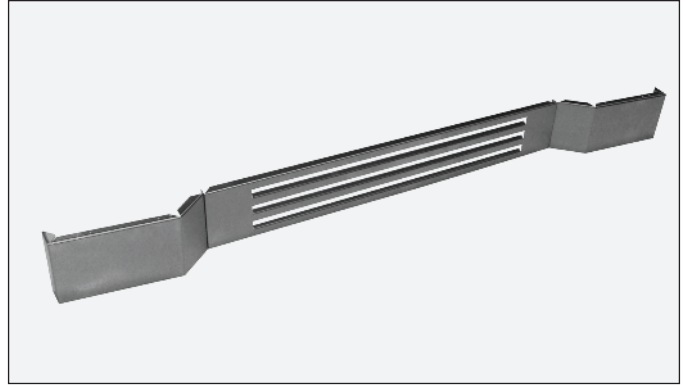

FIG. 1. The kickplate.
4. With the provided wrench, adjust the front leveling legs as needed. See fig. 1
The kickplate (see fig. 1) is shipped unattached to the unit to allow easy access for leveling the unit. The kickplate attaches to the unit with magnets (see fig. 2) located on either side at the bottom of the unit.